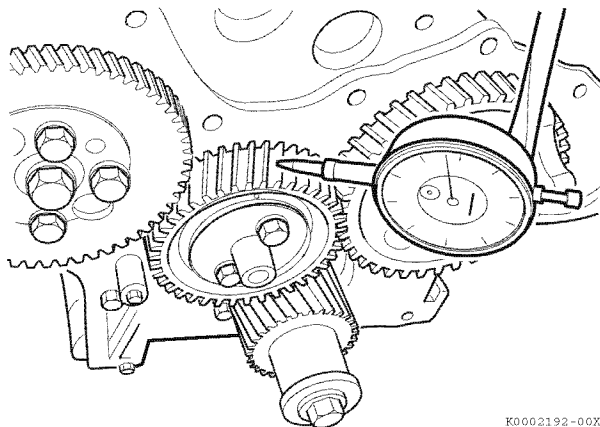

Figure 6-40
1. Install a dial indicator as shown in Figure 6-40.